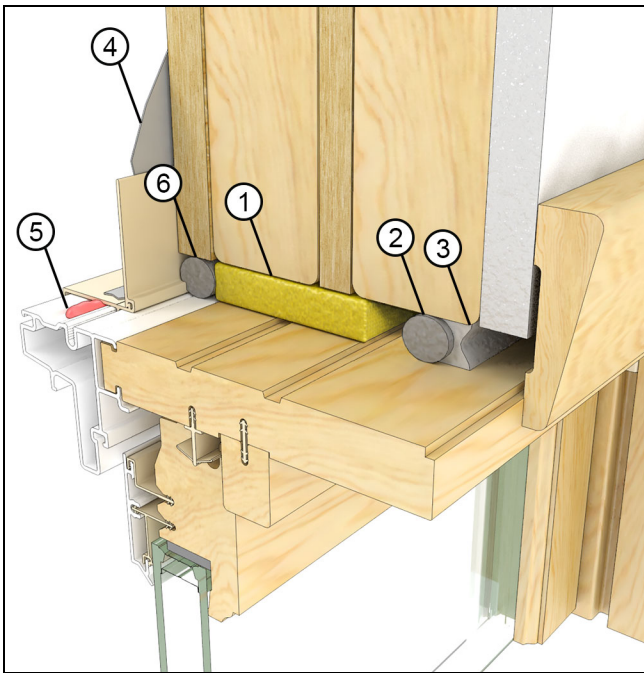

Figure 43
1. For specific steps on insulating and sealing the rough opening cavity for both nailing fin and casing scenarios, refer to [instructions online at \[www.marvin.com\]\(http://www.marvin.com\)](#), See Figure 43.